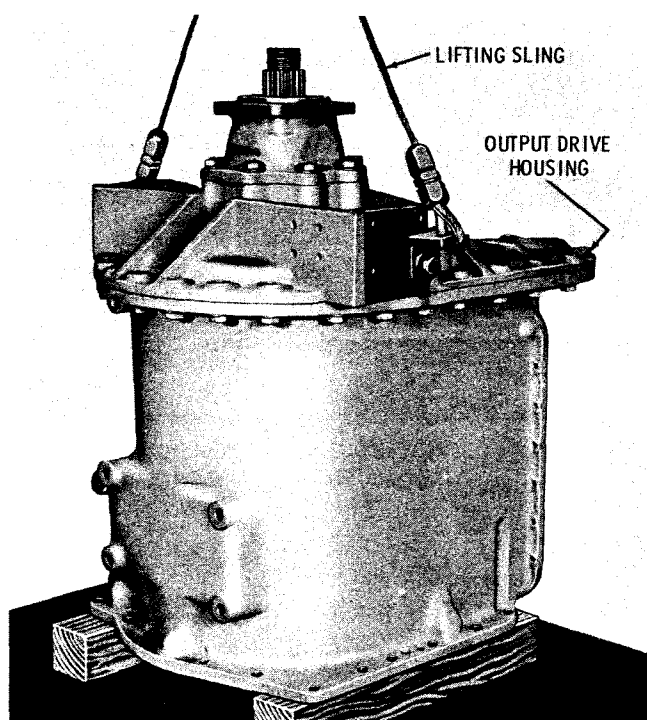

Fig. 5-56. Positioning transmission for removal of rear components
(6) Attach the 2-strand lifting sling to the output drive housing and lower the transmission onto wood blocks (fig. 5-56).